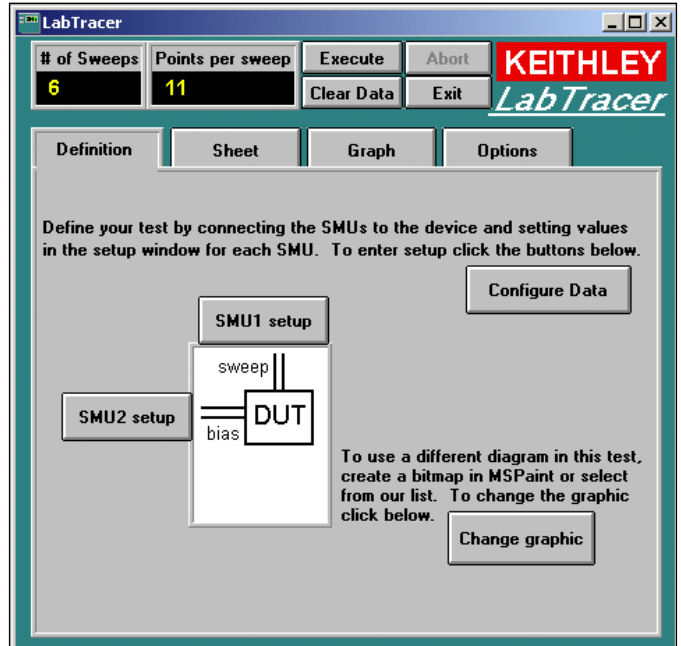
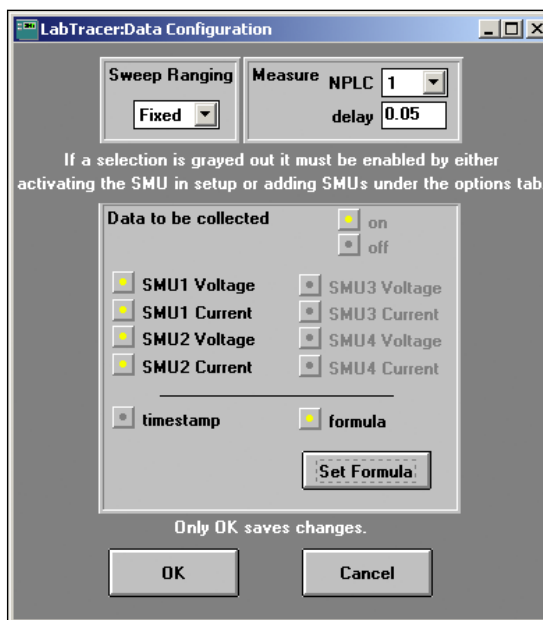

Figure 5. Definition tab
Figure 8. Data configuration
3. Choose a bitmap to represent the device under test from the **Definition** panel (**Figure 5**). Click the **Change Graphic** button to select from the available images.
6. Enter the data configuration panel (Figure 8) by clicking on the **Configure Data** button on the **Definition** panel (Figure 5). When the box to the left of the data set is yellow this data will be collected. Adjust these settings as needed, then set the ranging and speed variables.